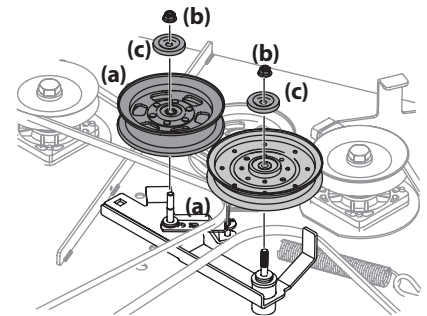

Figure 37
3. Remove the two idler pulleys (a) by removing the flange lock nuts (b) and pulley caps (c) that secure them to the deck and the idler arm. See Figure 37. Do not lose any of the hardware when removing the flange lock nuts (b).
6. Place the belt around the idler pulleys removed in Step 3 with the "V" side facing in. Once in place, reinstall all the hardware and tighten the flange lock nut to secure the assembly. See Figure 37.